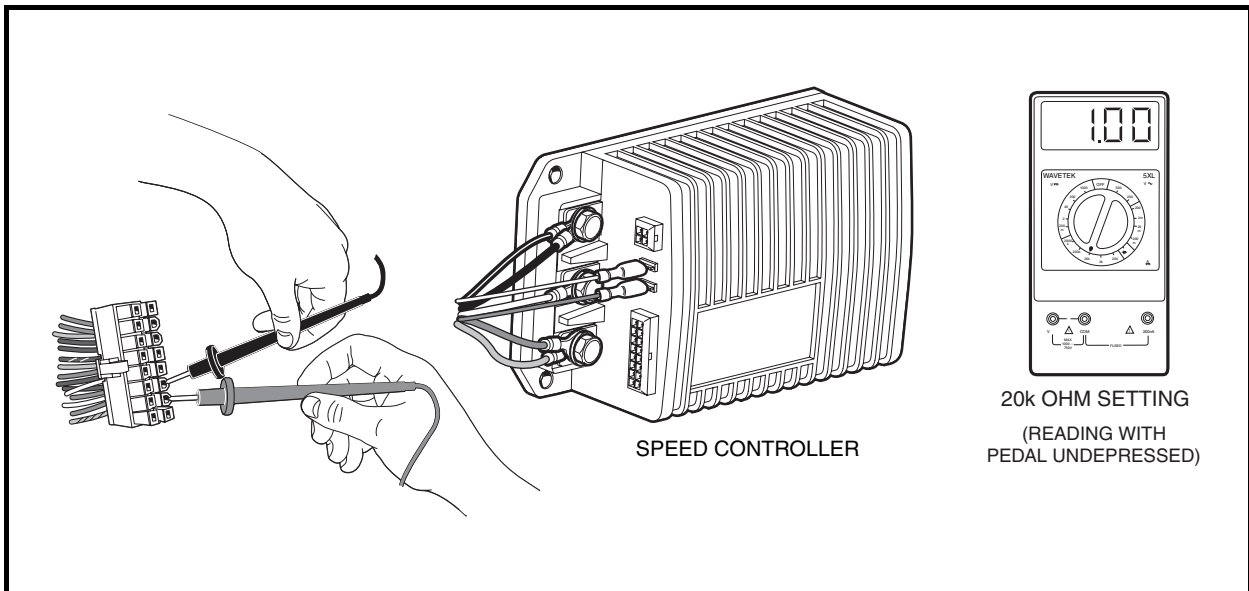

Figure 11-12 Pins 1, 2, and 3 Test
4. Set a multimeter to 20k ohms. Insert the red (+) probe of the multimeter into pin 2 (yellow wire) of the 16-pin connector. **See following CAUTION.** Insert the black (–) probe into pin 3 (purple/white wire) of the 16-pin connector (**Figure 11-12, Page 11-23**).